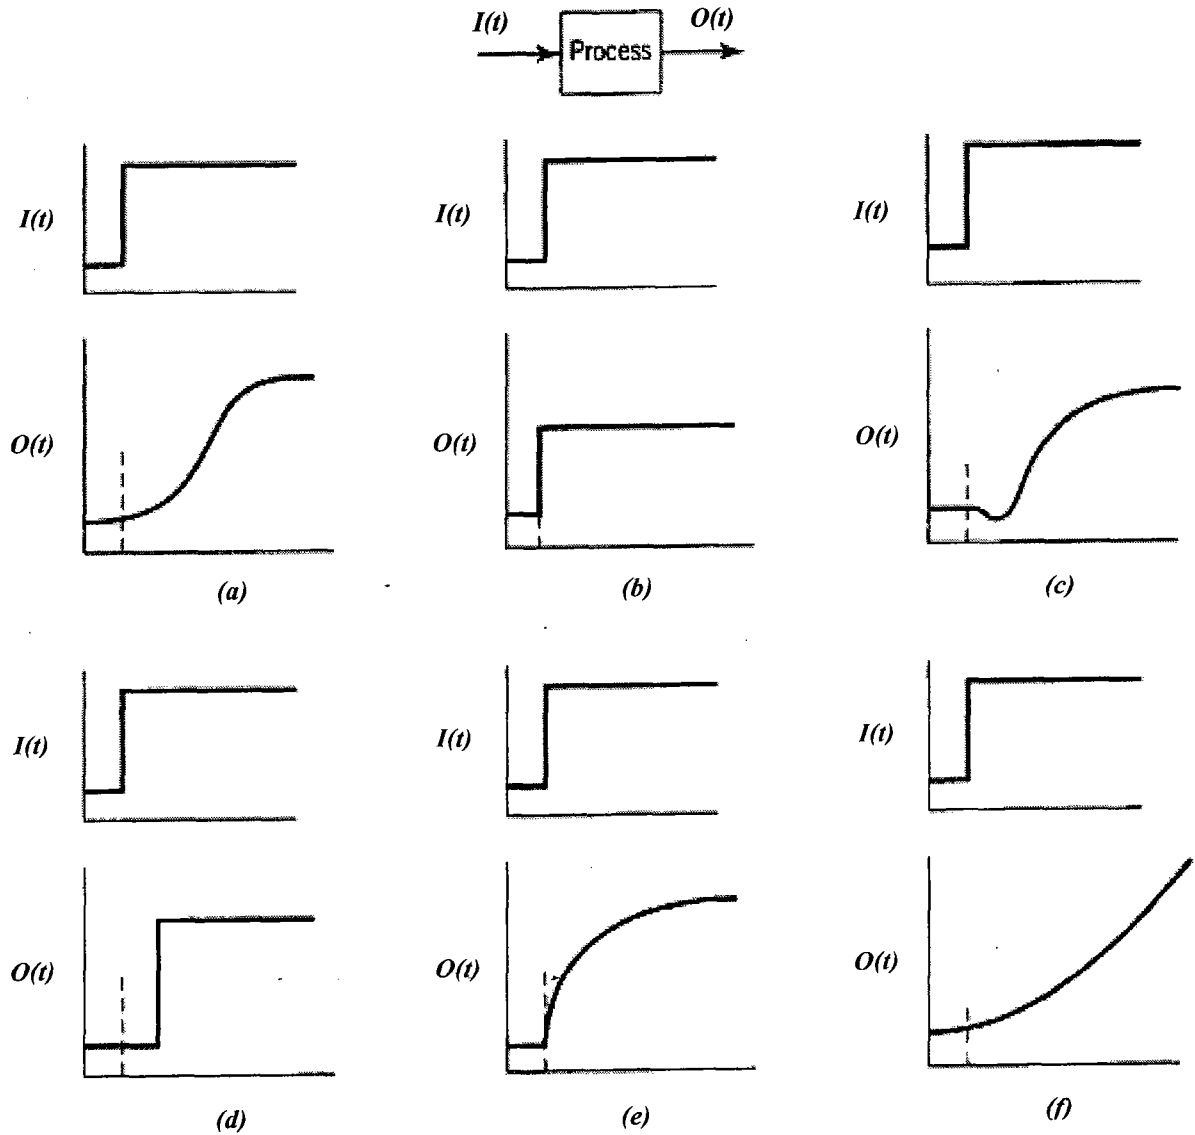

Figure Q.5.[c] : The response of six different processes to a step change in input.
- [c] Figure Q.5.[c] shows the response of six different processes to a step change in input. Give an indication of the form(s) of possible transfer function(s) for each process.